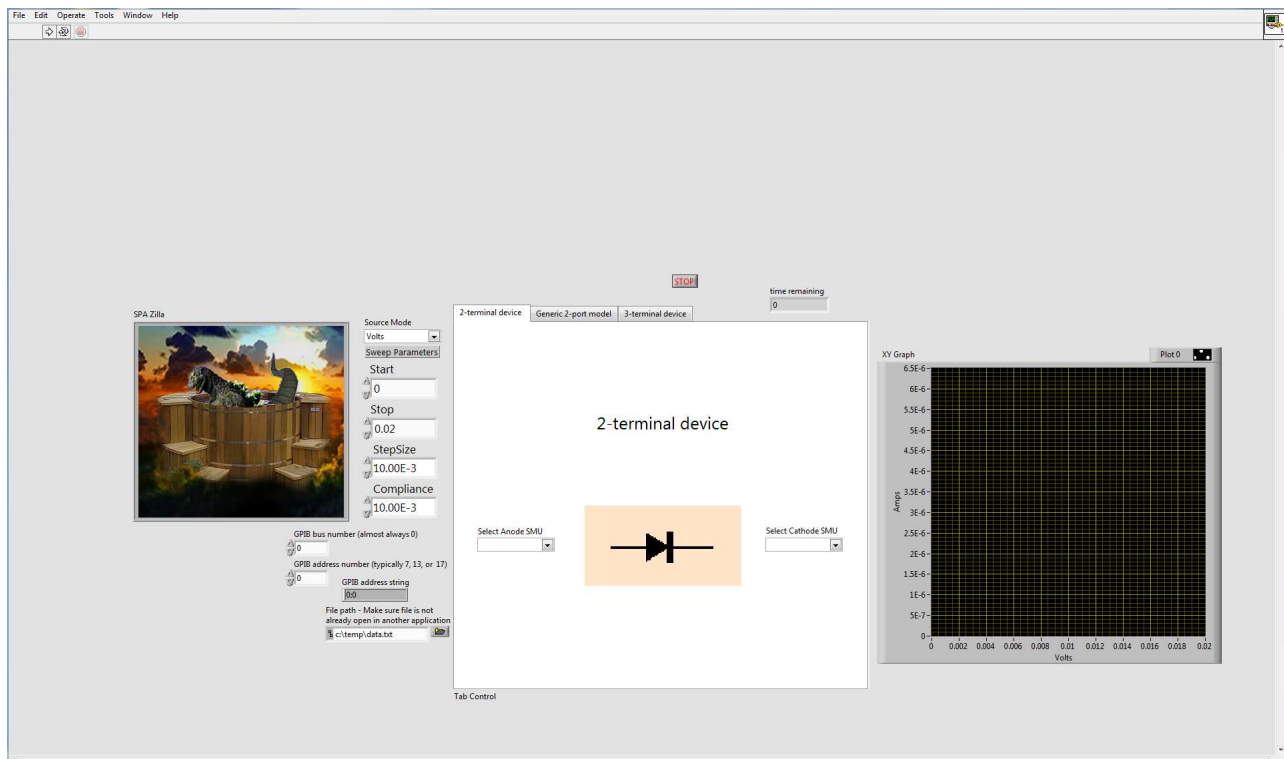

Figure 2: Labview window
3. Go to folder C:\ SpaZilla , double click the SpaZilla icon in it, click OK to the welcome message. The initial display is shown in Figure 2. There are three dedicated sections:2-terminal device; Generic 2-port model and 3-terminal device from Spazilla. You will be the 2-terminal and 3-terminal measurement in this lab. The details of the setting will be shown in the following examples